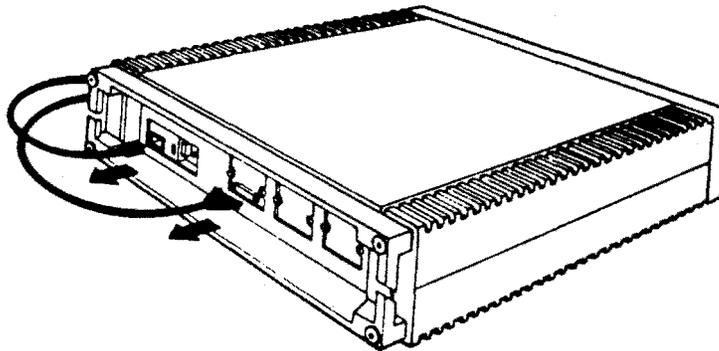

Figure 6-2: Rear Cable Removal
4. Note the position of any external cables connected to the Patch and Filter Panel assembly. Remove the cables (Figure 6-2).